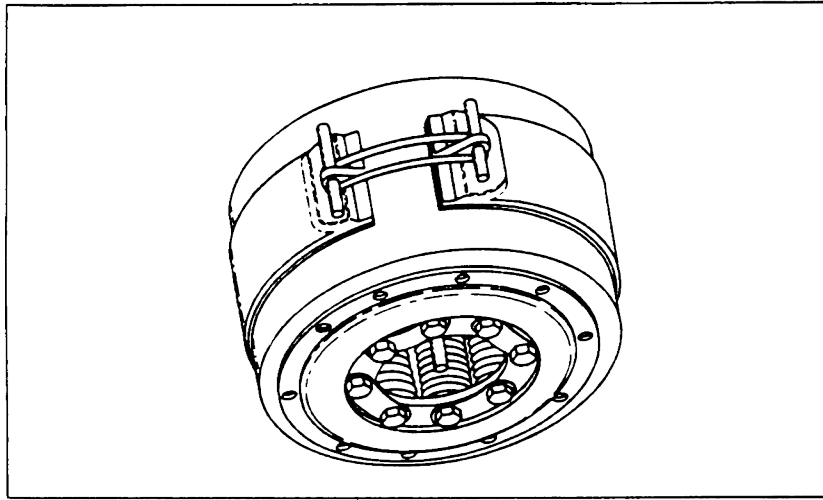

FIGURE 20. STEERING CLUTCH ASSEMBLY REMOVAL
Step 4. Place two .38 inch diameter rods, 6 inches long, through the holes in the brake band (Figure 20).